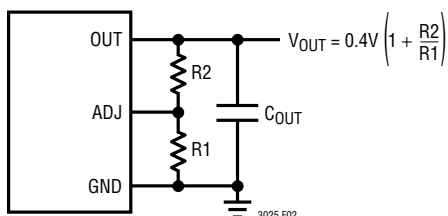

Figure 2. Programming the LTC3025
**ADJ (Pin 5):** Adjust Input. This is the input to the error amplifier. The ADJ pin reference voltage is 0.4V referenced to ground. The output voltage range is 0.4V to 3.6V and is typically set by connecting ADJ to a resistor divider from OUT to GND. See Figure 2.
The output voltage is set by the ratio of two external resistors as shown in Figure 2. The device servos the output to maintain the ADJ pin voltage at 0.4V (referenced to ground). Thus the current in R1 is equal to  $0.4\text{V}/R1$ . For good transient response, stability, and accuracy, the current in R1 should be at least 8µA, thus the value of R1 should be no greater than 50k. The current in R2 is the current in R1 plus the ADJ pin bias current. Since the ADJ pin bias current is typically <10nA, it can be ignored in the output voltage calculation. The output voltage can
be calculated using the formula in Figure 2. Note that in shutdown the output is turned off and the divider current will be zero once  $C_{OUT}$  is discharged.